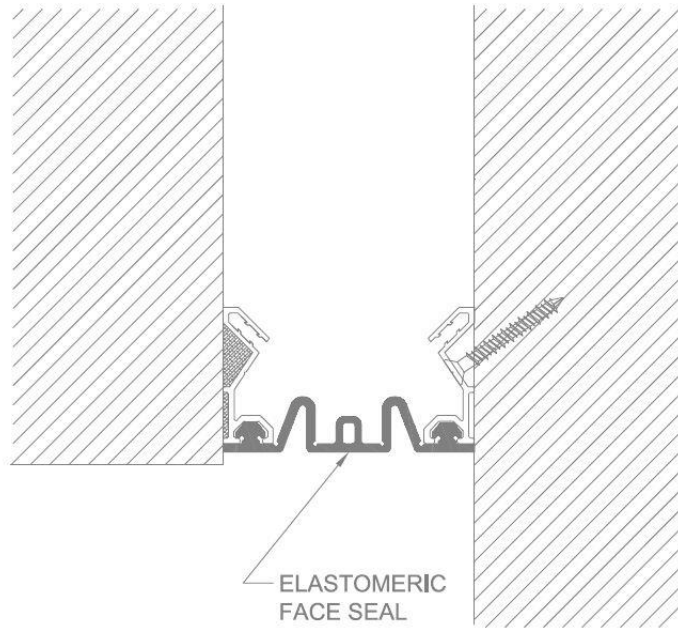

FIGURE 4
4. Place the elastomeric seal into position and push the seal bulbs into extrusion channels as shown. **See Figure 4.** Make sure the bulbs are seated all the way into the channel. Do not stretch the seal lengthwise during installation.